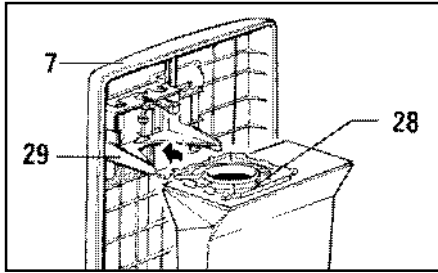

Figure 7
Changing the Dust Bag - Figure 7
2. Bag not inserted properly	2. Re-insert bag with cover release flap (5) up, until firmly latched in bag holder (see pg. 8, figure 7).